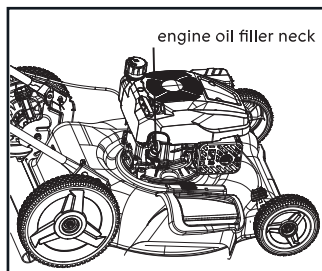

Fig. 5
As shown in Figs. 5 to 6
1. Remove the oil filler dipstick and wipe oil from it with a clean cloth. Insert the dipstick into the oil filler neck, and tighten it. (see Fig. 5).